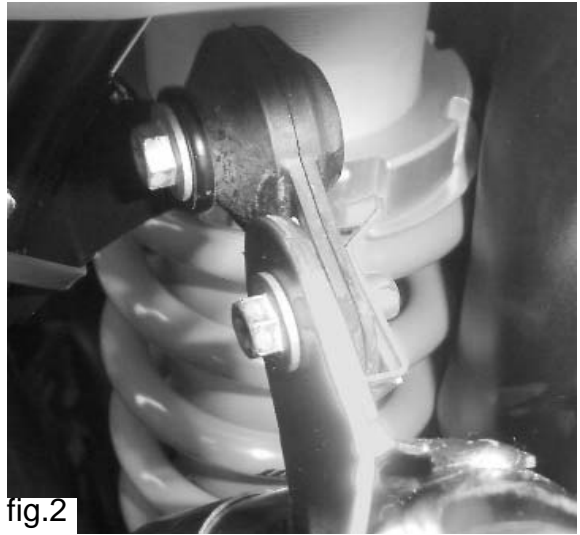

fig.2
10. Remove the clip from the rear mount on the stock pipe and install onto the rear rubber hanger. Your FMF pipe will mount on the outside of the hanger (fig.2).
15. Install the rear pipe mounting bolt removed in step #6 (fig.2); do not tighten at this time.